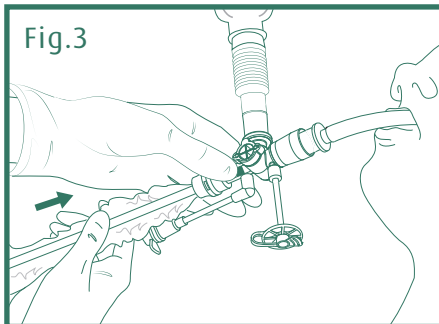

Fig.4
8. **(Fig. 4)** Depress and hold the vacuum control device (H) .